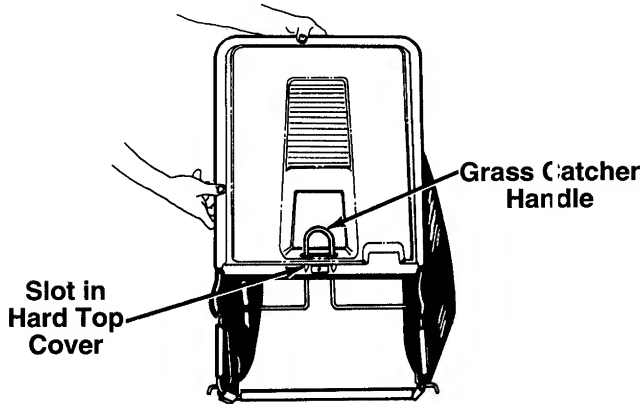

FIGURE 12.
5. Slide the handle on the grass catcher frame into the slot in the hardtop cover from beneath the cover. See figure 12.